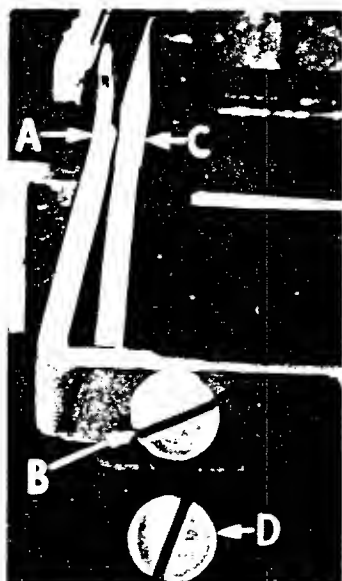

Fig. 6
Set rear needle guard (A, Fig. 6) as high as possible, without interfering with either lower looper or movement of lower knife holder, but still in position to deflect needles forward .002-.004 inch (.051-.102 mm). Screw (B) is used to set rear needle guard. Make sure there is no interference between rear needle guard and lower looper.
Assemble front needle guard (C, Fig. 6). When lower looper is springing needles off rear needle guard, set front needle guard as close as possible to needles without touching. Screw (D) is used to adjust and set front needle guard. After this setting, make sure there is no interference between needle guards and differential feed dog.